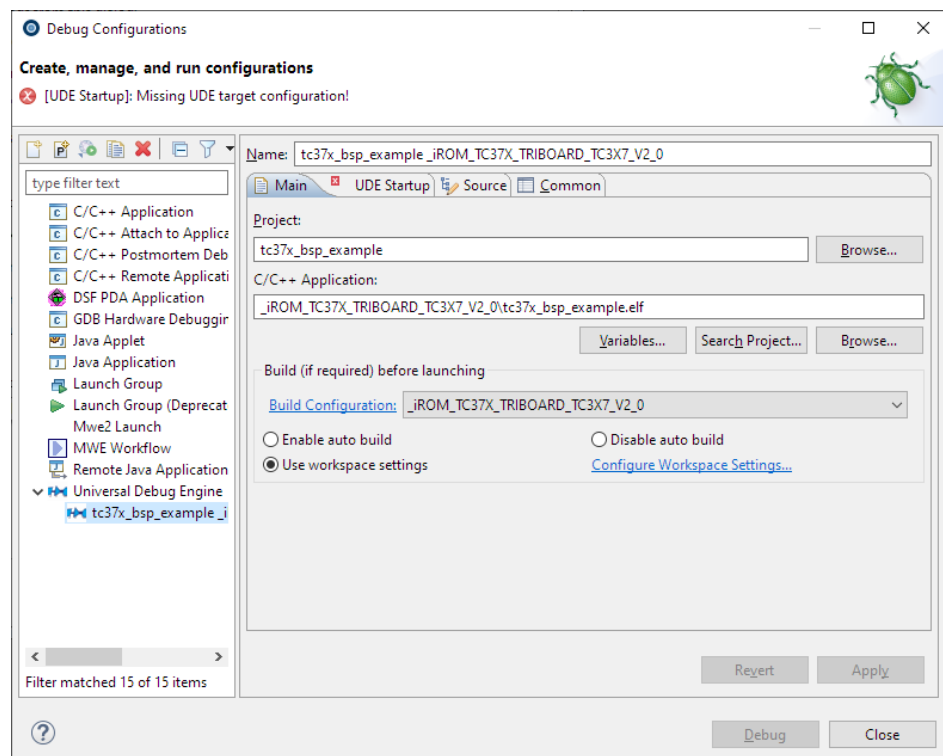

Figure 36 Create new debug launch configuration for Universal Debug Engine
3. Press the **New configuration** button to create a new debug launch configuration for Universal Debug Engine (Figure 36).